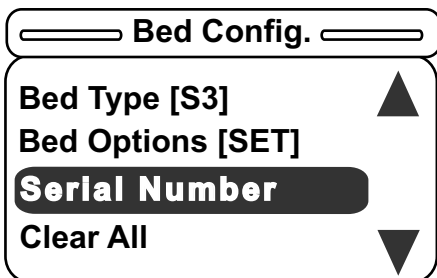

Figure 46 – Bed Config. menu
22. If you press **Exit** on the footboard panel while on the Bed Options menu, you will return to the Bed Configuration main menu (Figure 46).